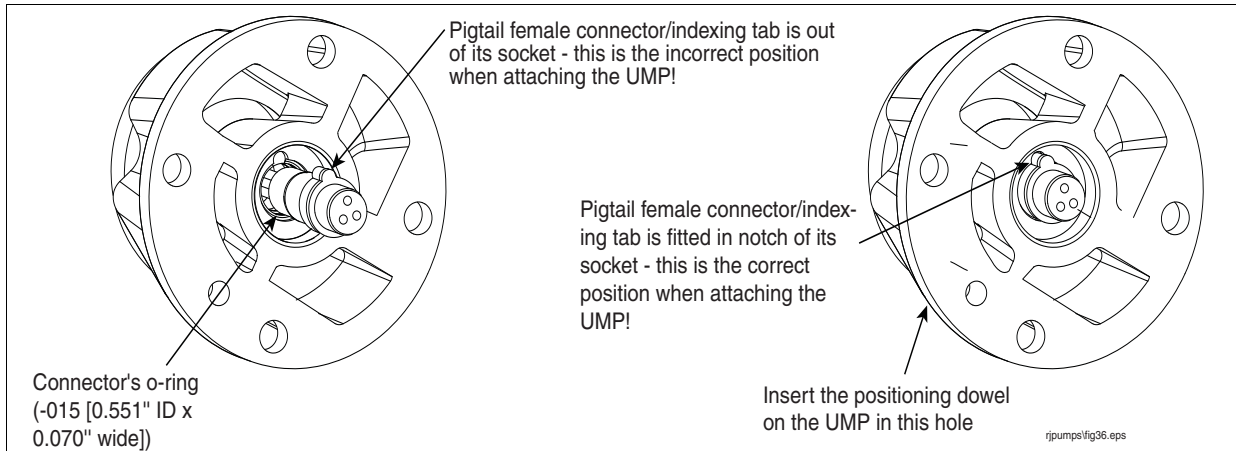

Figure 7. Verifying pigtail's female connector is seated properly
1. Visually inspect the pigtail connector in the end of the discharge head. Be certain the pigtail connector is seated in its socket and its index tab is in the socket's notch (see Figure 7).
3. Align the UMP positioning dowel insert in the proper hole in the discharge head (see Figure 7) and push the UMP into position using hand force only. The UMP should be snug against the discharge head prior to installing the UMP retaining bolts.